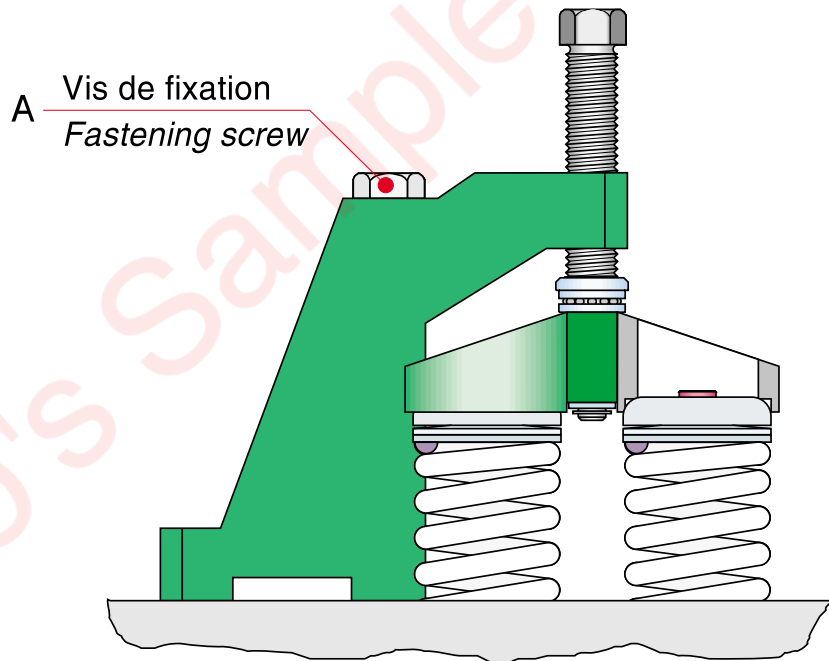

Fig. 12-7
- 3 Fit the tool** 846010 according to Fig. 12-7